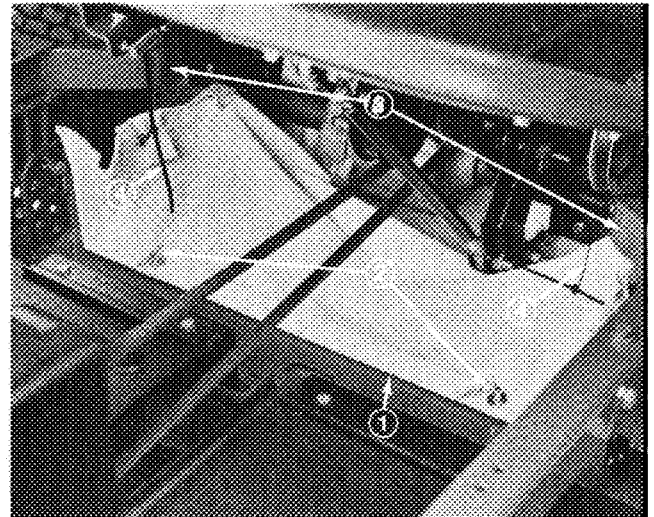

Figure 7
6. Insert front of shield (deck support) onto mounting pins on cutting unit (Fig. 7). Secure shield to pins with (2) hair pin cotters (Fig. 7).
7. Secure top front of shield material to traction unit lift arms with cable ties as shown in Fig. 7.